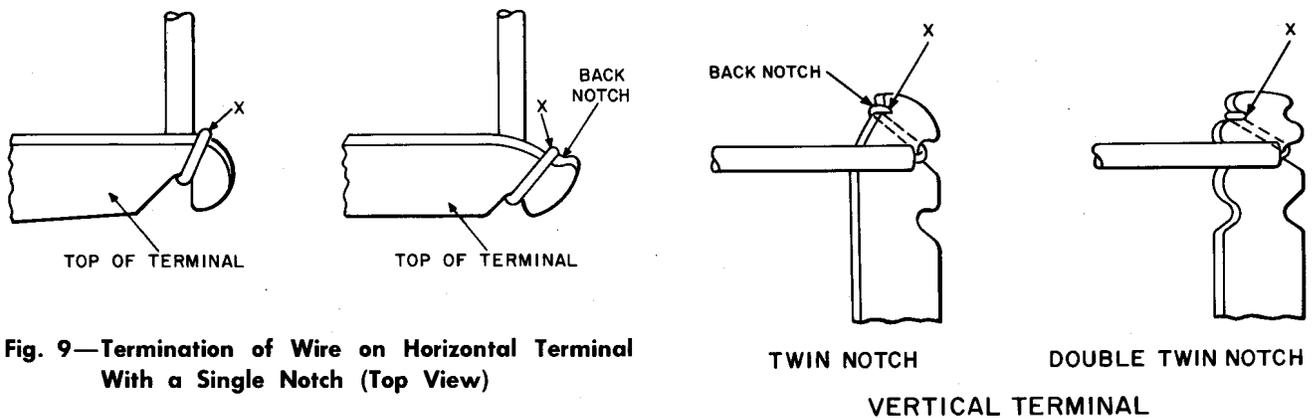

Fig. 9—Termination of Wire on Horizontal Terminal With a Single Notch (Top View)
7.12 To terminate a wire on a terminal in a horizontal position with a single notch with or without a back notch (such as a vertical IDF), route the wire along the bottom of the terminal, through the notch, back along the top of the terminal, and terminate at the back or back notch as shown in Fig. 9. Break the wire at point "X", except 20-gauge wire, which should be cut.